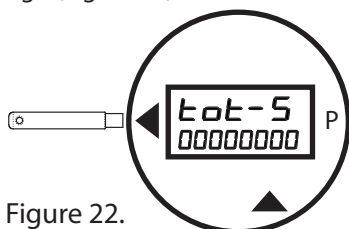

Figure 22.
- Pass the wand over the ◀ to move and activate each digit (Figure 22).